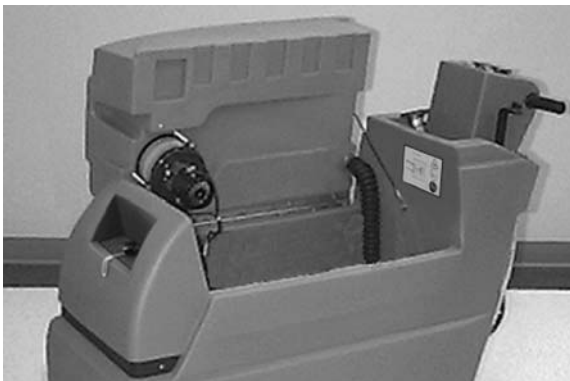

FIG. 1
2. Carefully hinge open recovery tank to access battery compartment. Remove loose battery cables from compartment (Figure 1).